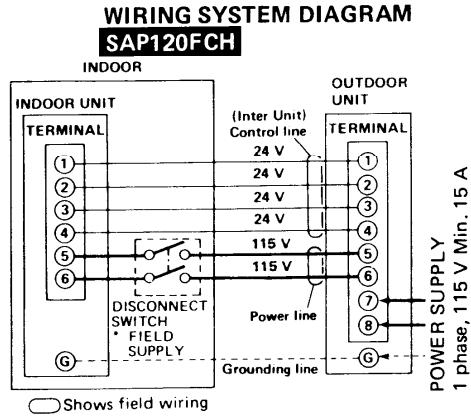

Fig. 6
- Refer to the wiring diagram in Fig. 6, which is labelled on the access panel.